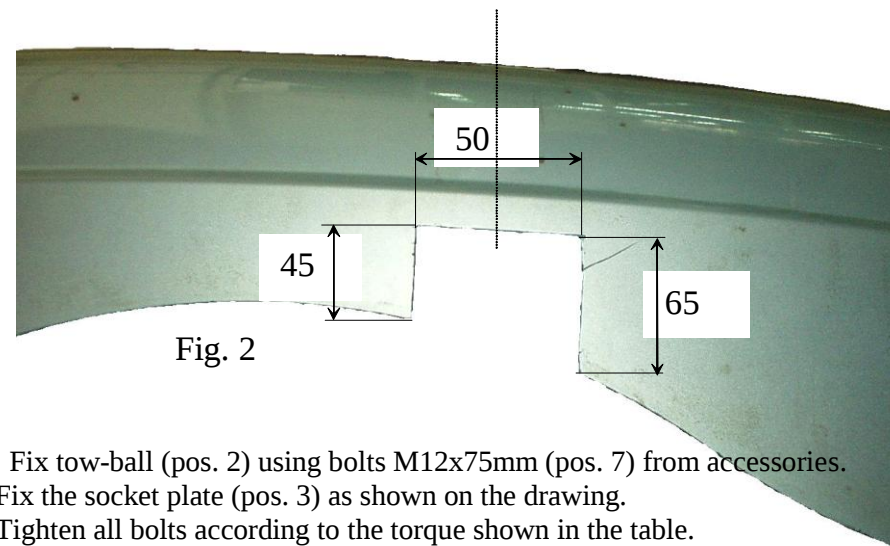

Fig. 2
3. To uncovered holes put special nuts „Caget nut” (pos.13).
4. Put mian bar of the towbar in this way, so towbar's holes agree with caget nut, fix by M10x35mm bolts (pos. 9) as shown on the drawing (loosely).
5. Fix side brackets pos. 4, 5 and flat bar pos. 6 .
6. Cut the bumper according to the fig. 2 and then reassemble it.